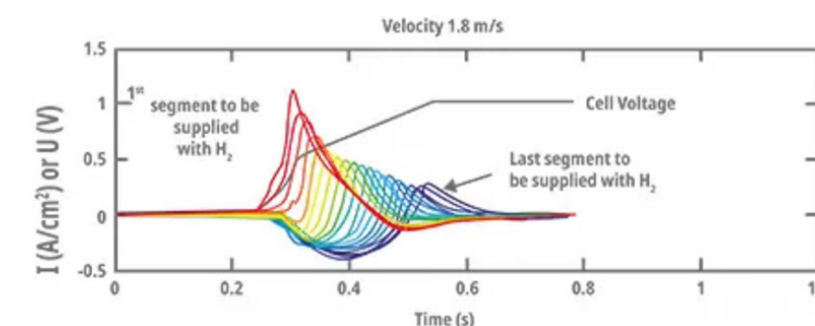

Figure 3: Fuel Cell Stack Reaction Time (Source: LEMTA - University of Lorraine)
Since fuel cells generate power through a chemical reaction involving two gases, there's a delay between gas supply and power output as the fuel permeates through the stack (**Figure 3**). For fixed stationary applications, this delay is manageable. However, for hydrogen fuel cell vehicles, even a brief reaction delay is unacceptable, so fuel cell-powered vehicles also use high-voltage (HV) batteries for immediate power and acceleration. These HV batteries can, however, be relatively small as they are continually recharged by the fuel cell stack.